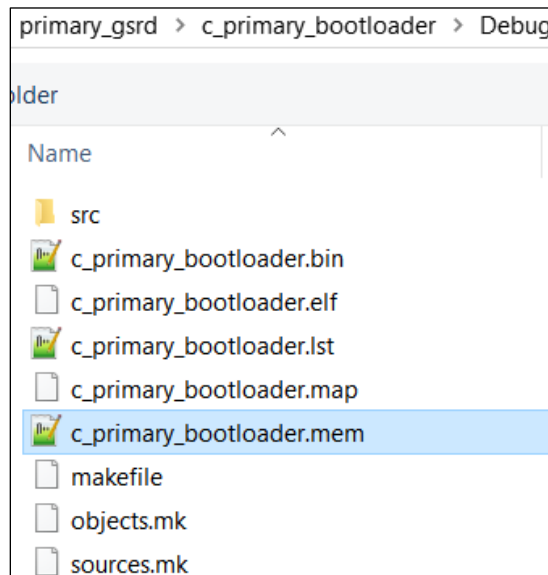

Figure 8.42. Initialize System Memory with c_primary_bootloader.mem
- Click on **Initialization File's Value** area with three dots to locate the generated **c_primary_bootloader.mem** Bootloader file as shown in Figure 8.42.